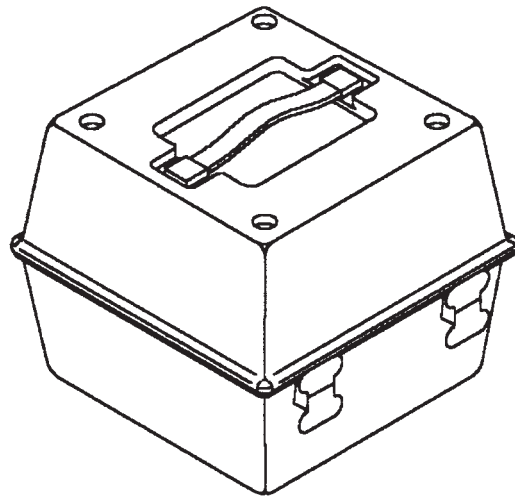

Figure 4-90. TCM Container
13. Using the ESD mat, place the TCM in a safe place until you can put it in the shipping container (as shown Figure 4-90).